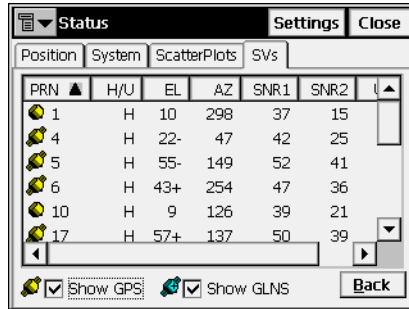

Figure 5-10. Status – SVs List
- **List**: toggles the appearance of the screen to the table displaying the table of the satellites parameters (Figure 5-10 on page 5-8).